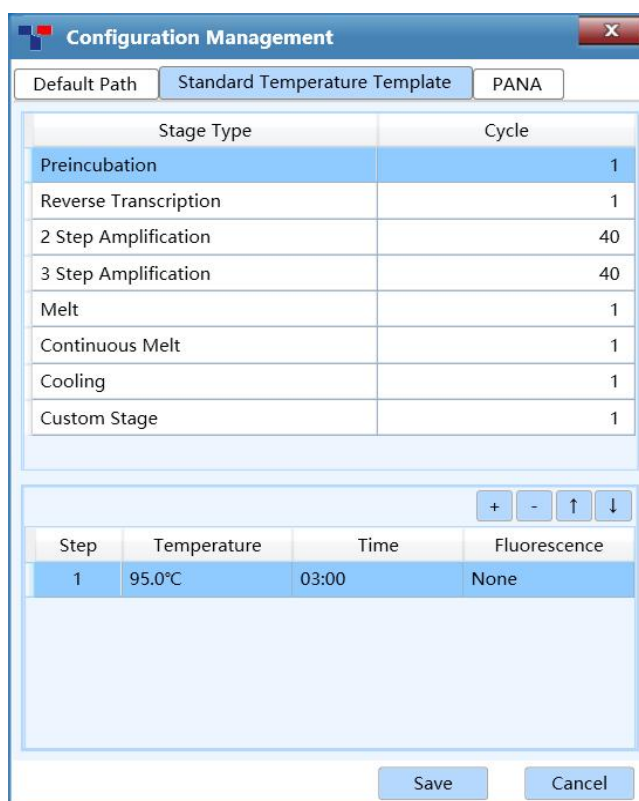

Figure D-3.7b. Configuration Management Interface - Standard Temperature Template Tab
- ▶ **Standard Temperature Template** tab: 7 predefined standard temperature templates are displayed in this tab, as shown in figure D-3.7b. These templates are provided by the application software for temperature program stage settings.